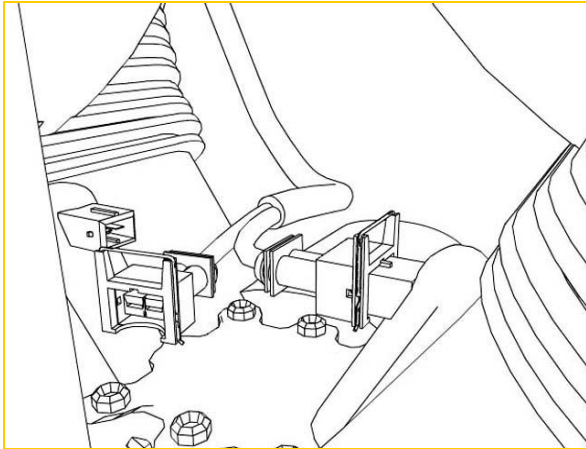

Fig 7
9. View from right. Depress locking bails and remove injector connectors. Rear first, then front. Do not pull wires. (Fig 7,8)